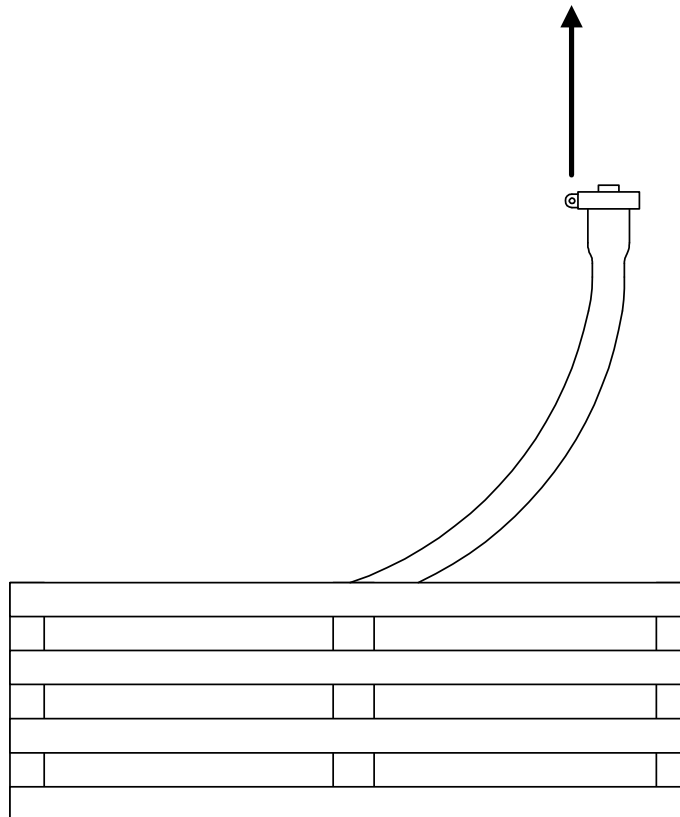

Figure 3
- The hose must be lifted vertically out of the crate with the crane (Refer to Fig 3)